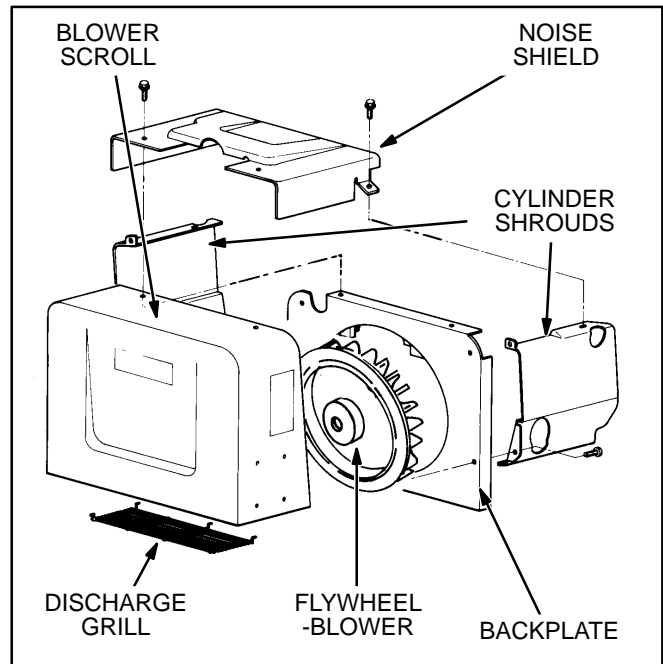

FIGURE 7. COOLING SYSTEM
1. Remove the cooling system noise shield, fan guard and scroll (Figure 7) to provide access to the exhaust manifold.
See Figure 7. These are air-cooled gensets. The engine flywheel is also a centrifugal blower that draws cooling air across the fins on the engine cylinders and heads and discharges the warm air downwards through the discharge grill.
1. Remove both spark plugs and the cooling discharge grill (Figure 7) so that the engine can be turned by hand.